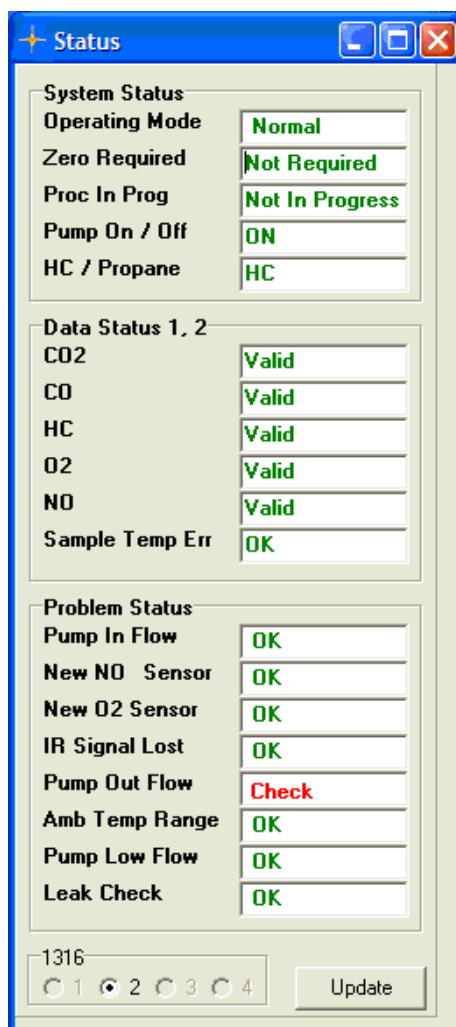

Figure 4.4. The Status Window displaying the Pump Out Flow Check.
If this test fails, the Pump Out Flow Check is shown in the Status window (see figure 4.4) and the zero calibration procedure is aborted:
3. A Flow Fault has been detected, see figure 4.4, "Pump Out Flow" caused by exceeded pressure limits.